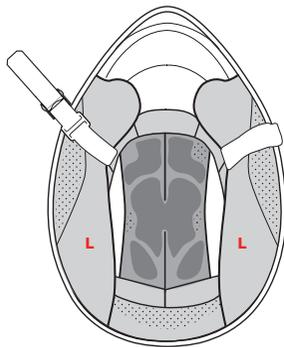

FIGURA 9
**Imbottiture laterali interne: GUANCIALI — L — Figura 9**